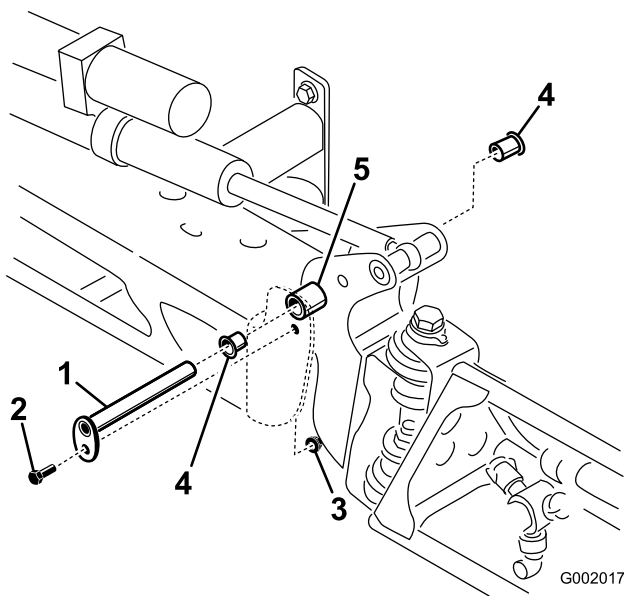

Figure 53
3. With the weight of the boom supported, remove the bolt and nut securing the pivot pin to the boom assembly (Figure 53). Remove the pivot pin.
- Remove and inspect the nylon bushings from the front and back sides of the pivot bracket (Figure 53). Replace any damaged bushings.
- Install the boom and pivot bracket assembly into the center frame, aligning the openings (Figure 53).